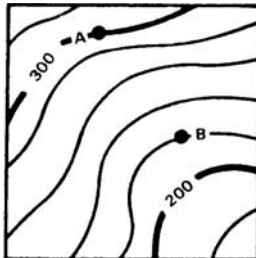

Figure 071-329-1004-2. Contour intervals
c. Widely spaced contour lines show a gentle slope. Close lines indicate a steep slope (figure 071-329-1004-3).